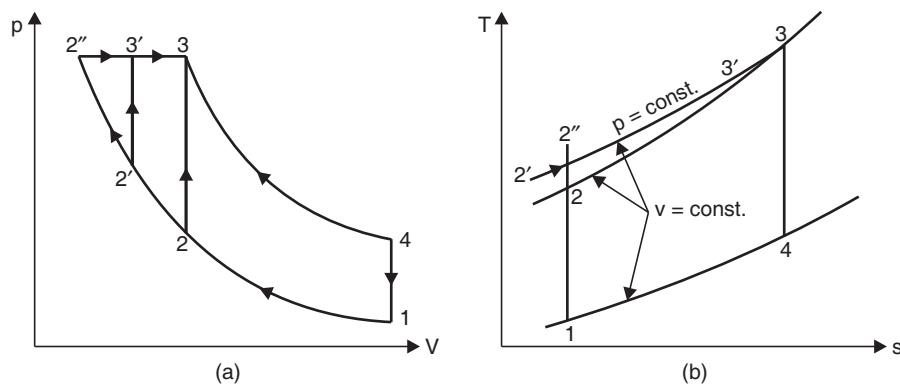

Fig. 4.29
**Solution.** Refer to Fig. 4.29 (a) and (b).
Otto 1-2-3-4-1, Dual 1-2'-3'-3-4-1, Diesel 1-2"-3-4-1 [Fig. 4.29 (a)].
Slope of constant volume lines on  $T-s$  diagram is higher than that of constant pressure lines. [Fig. 4.29 (b)].